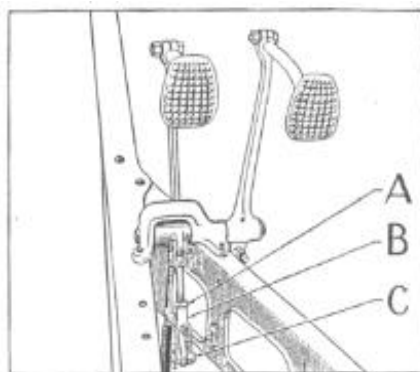

Figure 8
The clutch is self-adjusting; however, it is necessary to adjust the clutch pedal rod to prevent the pedal from "riding" the floor board. To adjust, loosen lock nut (A), Figure 8, remove clevis pin (C) and turn yoke (B) to shorten or lengthen the rod, as necessary, so that the pedal shank can be held in a position one and one-half inches from the floor board when the clutch is engaged. Replace the clevis pin (C) and cotter pin. Tighten lock nut (A). The pedal clearance should be checked frequently as a lack of clearance will cause clutch slippage.